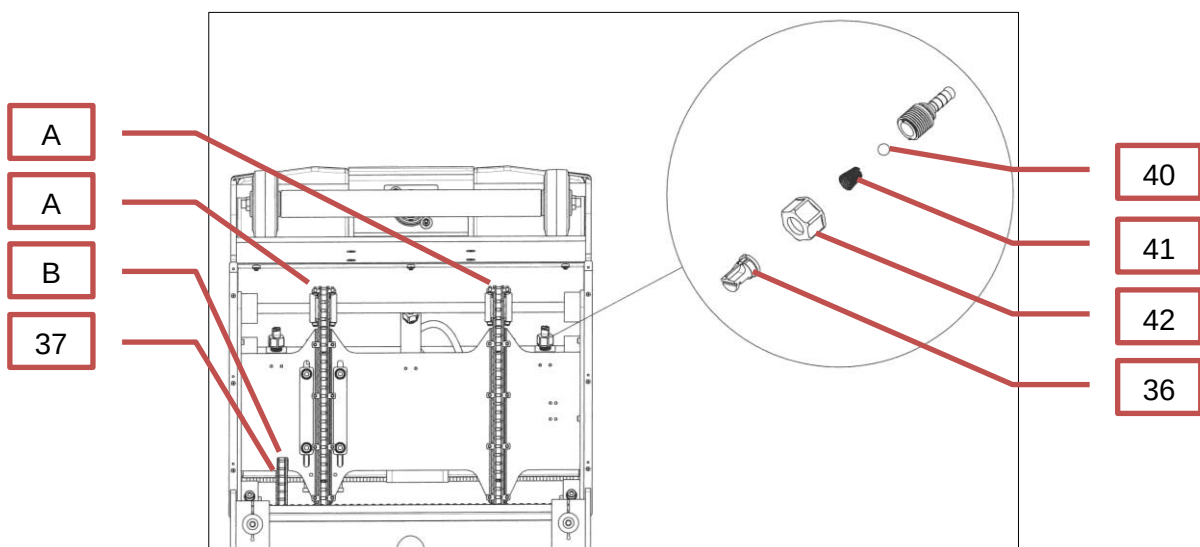

Figure 21 Chain drive / spray nozzles
- Maintenance work in this case should be carried out as after 30 service hours, but here the chains (35) and chain wheels (37) must be checked for wear and replaced if required (see Fig. 21: Chain drive / spray nozzle).
(see Fig. 21: Chain drive / spray nozzles)
(see Fig. 21: Chain drive / spray nozzle)